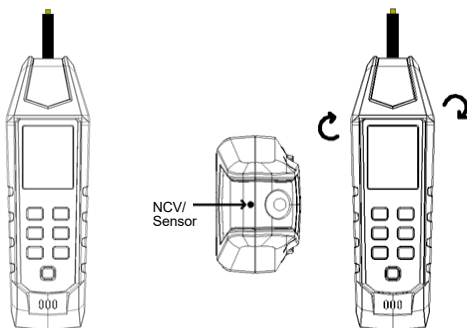
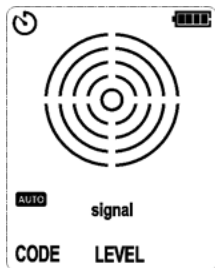

Figure 10.1.3a Align to the sensor slot
Figure 10.1.3b No Signal Detected
3. To obtain a best effect when tracking energized conductor, please align the dot screen printing (on the top of the sensor) to the direction of the conductor, as shown in Figure 10.1.3a. If not aligned properly, signal may not be detected or the code may be wrong. To check the direction of the cable, please rotate the receiver for 90 degrees regularly, as shown in Figures 10.1.3b and 10.1.3c. The signal strength reaches its maximum when the cable is aligned with the dot screen printing.